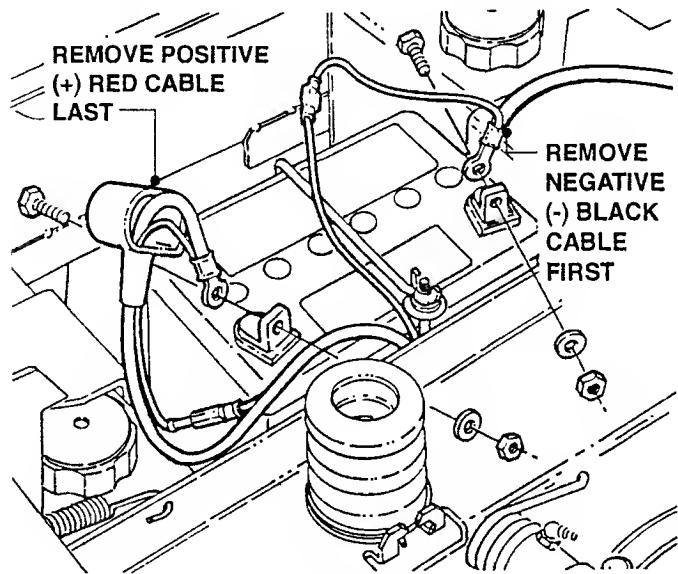

FIGURE 5.8
- Disconnect the Battery. Remove NEGATIVE (-) BLACK Cable first and POSITIVE (+) RED Cable last. Secure Cables away from the Battery. See Figure 5.8.
1. Place the Spacer between the Hydro Transaxle and mounting surface of Frame. Insert the two (2) 3/8 - 16 x 4 3/4" Bolts thru the holes in top of the Frame, Spacer and Transaxle. Secure Bolts with Flat Washers and Locknuts. Torque to 31 Ft. Lbs. (42.16 N•m).
2. Secure the Hydro Transaxle to the Bearing Mount Weldment with the eight (8) 1/4 - 20 x 5/8 Hex Flange Lock Screws. Torque to 8 Ft. Lbs. (10.88 N•m).
- F.** Depress Idler Pulley and place Traction Belt(s) over Input Pulley. Move the Input Pulley on its Shaft until the Belt is aligned with Traction Pulley. Tighten the two (2) 5/16 - 18 x 5/16 Sq. Hd. Set Screws.
- M.** Reconnect Battery (Refer to Figure 5.8).